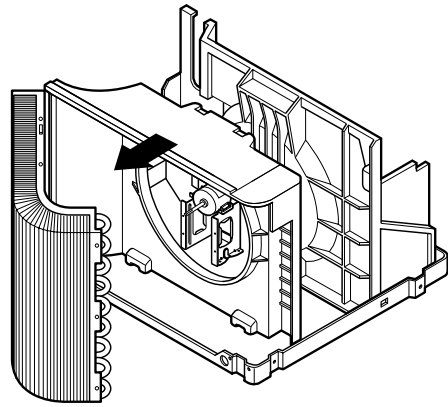

Figure 23
2. Remove the shroud. (See Figure 23)